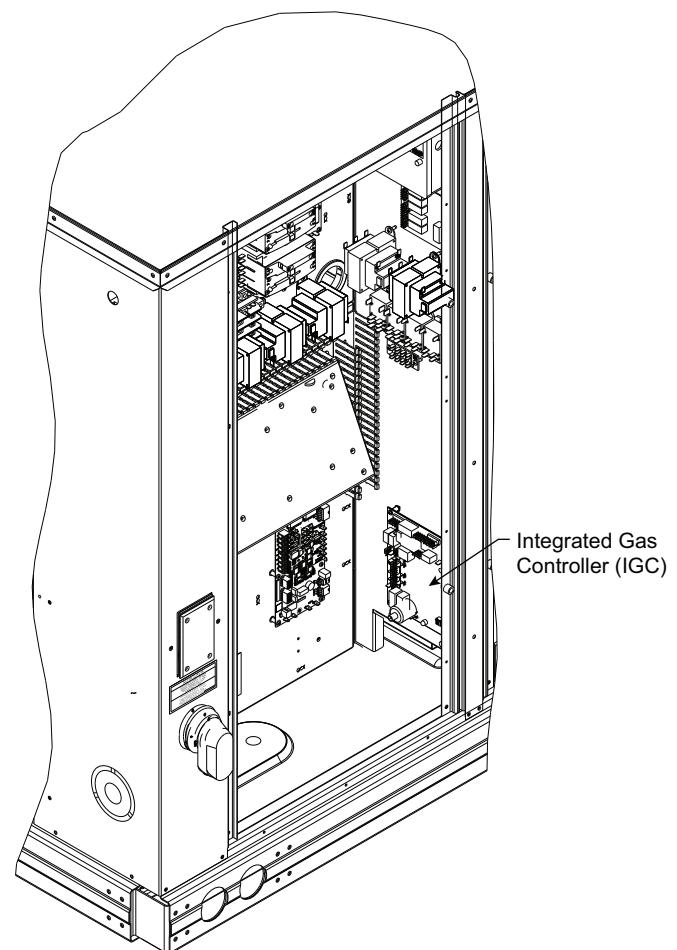
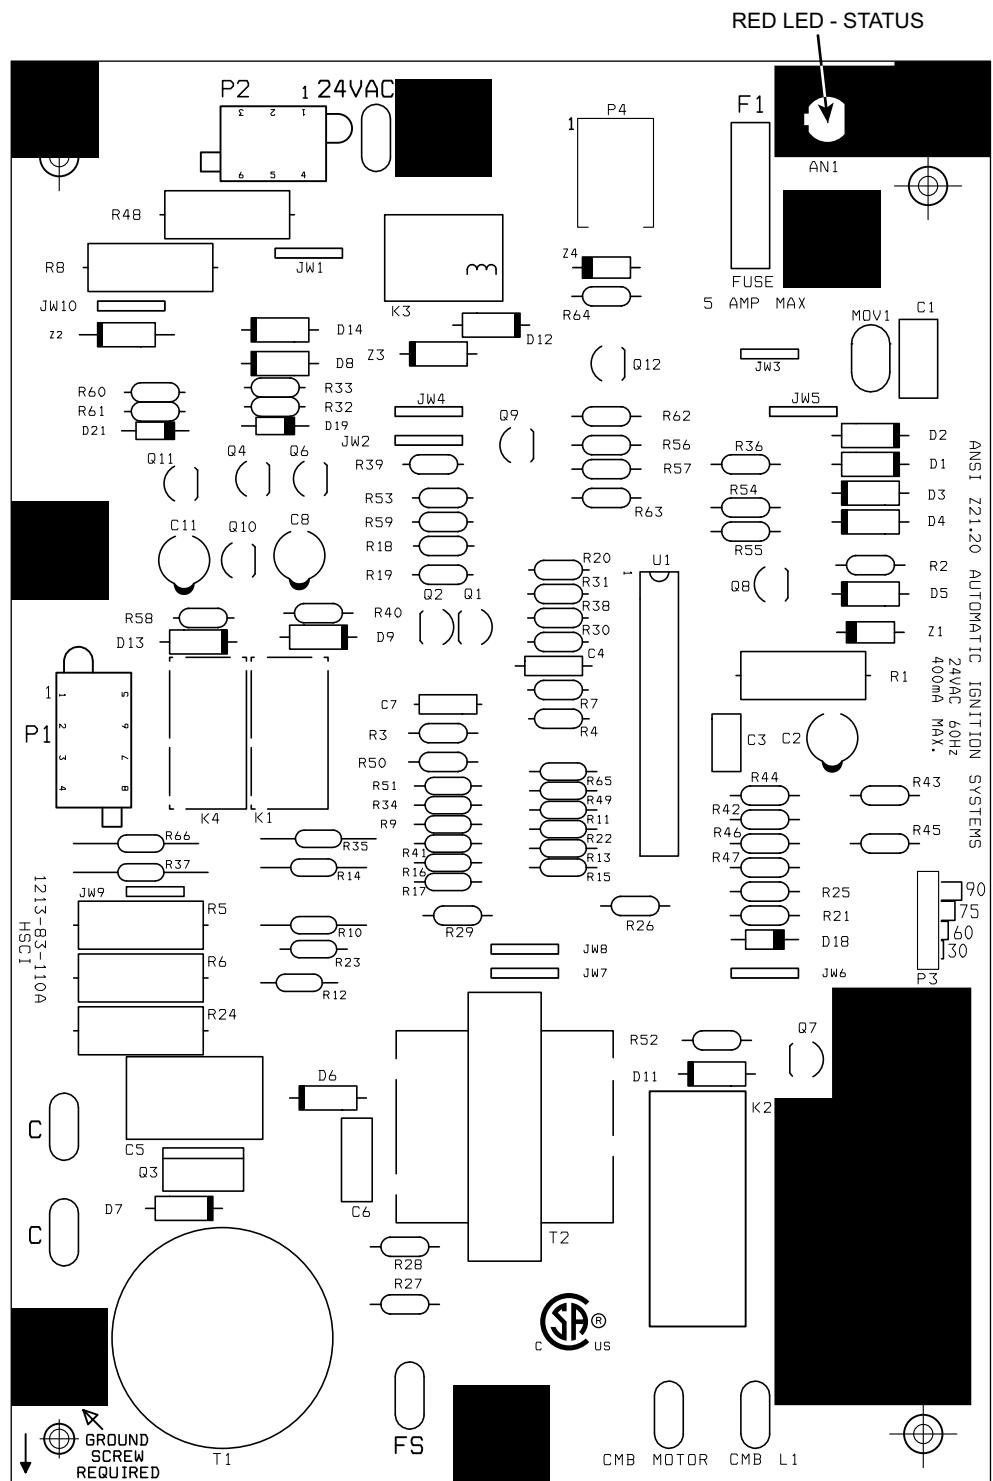

Fig. 56 — Unit Control Box/IGC Location
Fig. 59 — Integrated Gas Control (IGC) Board
8. Remove igniter wires and sensor wires at the Integrated Gas Unit Controller (IGC). (See Fig. 56.)
Unit is equipped with a direct spark ignition 100% lockout system. The Integrated Gas Unit Controller (IGC) is located in the control box (see Fig. 56). The IGC contains a self-diagnostic LED (light-emitting diode). A single LED (see Fig. 59) on the IGC provides a visual display of operational or sequential problems when the power supply is uninterrupted. When a break in power occurs, the IGC will be reset (resulting in a loss of fault history) and the indoor (evaporator) fan ON/OFF times will be reset. The LED error code can be observed through the viewport. During servicing, refer to the label on the control box cover or Table 9 for an explanation of LED error code descriptions.